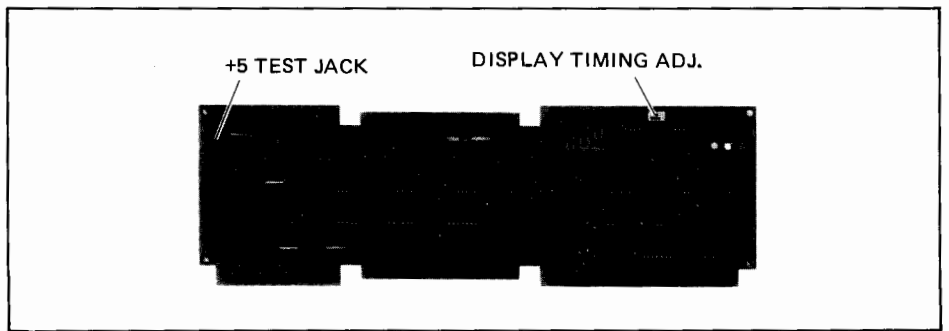

Figure 5-4. Display Timing PCA Test Jack and Timing Adjustment Locations
6. Connect test module cable plug to Display Timing PCA +5V red test jack located on top front of PCA (figure 5-4).
6. Connect test module cable plug to Display Timing PCA red +5V test jack located on top front of PCA (figure 5-4).
9. The monitor should display an inverse video rectangular pattern. If no pattern is displayed, adjust BRIGHTNESS potentiometer R37 (see figure 5-4) until pattern is displayed. If this step is required, perform brightness, half-brightness, and focus adjustments after completing raster alignment and adjustment procedures.